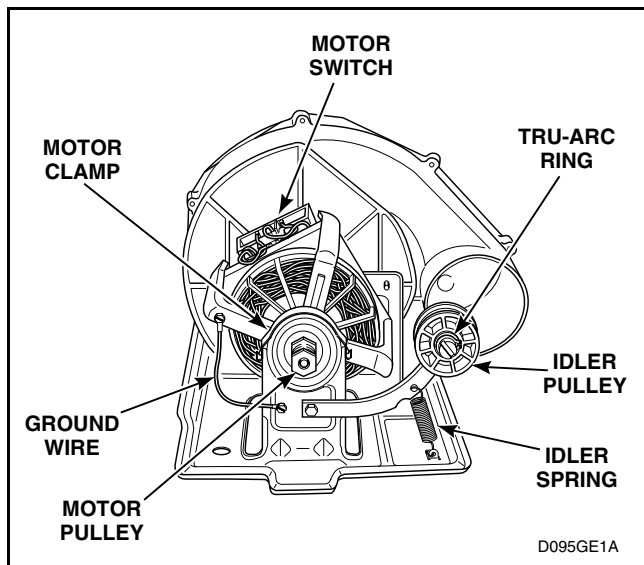

Figure 46
Refer to *Figure 46* for motor and idler pulley removal.
- (2) Disconnect ground wire from motor. Refer to *Figure 46*.
- (3) Use a screwdriver and pry two motor clamps off motor mounting bracket. Refer to *Figure 46*. Then lift motor out of mounting bracket.
**NOTE:** When replacing motor, motor switch location should be at 10 o'clock position (viewed from pulley end) with the anti-rotating notch (located on the front and rear cradles) in the motor mounting bracket. Refer to *Figure 46*.